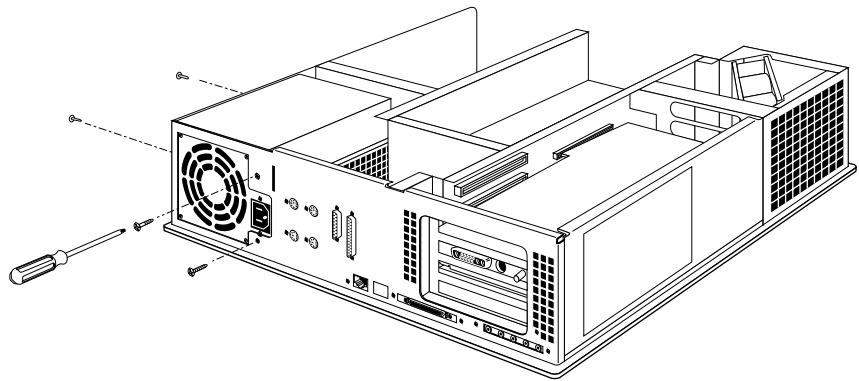

Figure 2-1 Removing the Power Supply Screws
- Face the back of the workstation, as shown in Figure 2-1. The power supply is located on the left.